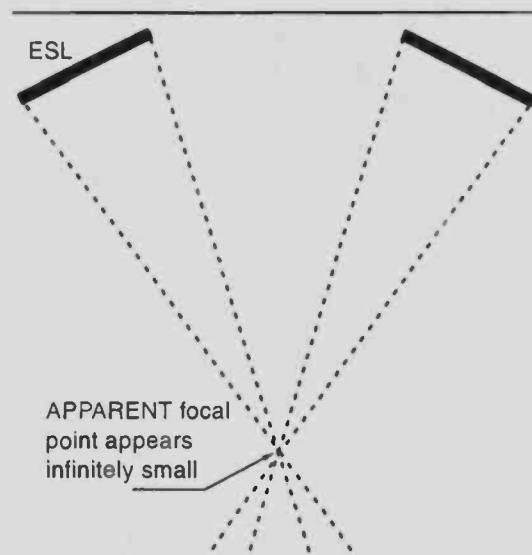

FIGURE 16-2: Focus is infinitely small despite wide beam.
- A single planar speaker has a tweeter beam as wide as the speaker. When you cross the beams from two ESLs during stereo listening, they subjectively become infinitely narrow (Fig. 16-2).